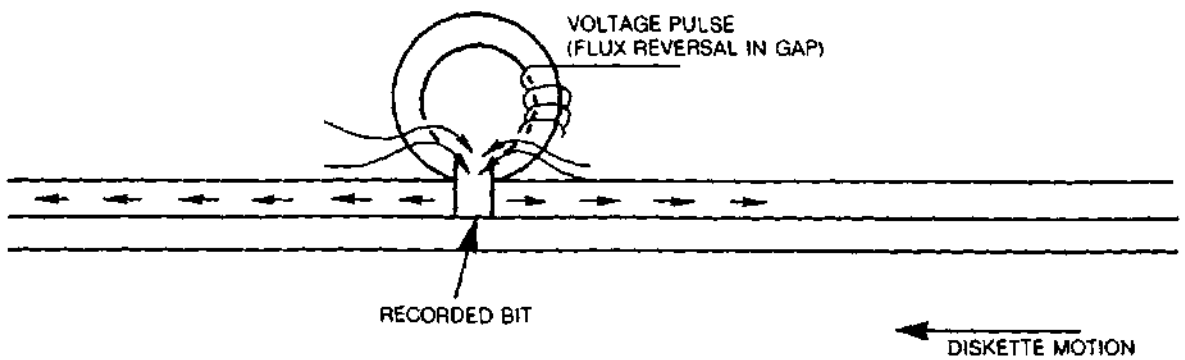

FIGURE 29. READING A BIT
**1.4.4** During a read operation, a bit is read when the flux direction in the ring is reversed as a result of a flux reversal on the diskette surface. The gap first passes over an area that is magnetized in one direction, and a constant flux flows through the ring coil. The coil registers no output voltage at this point. When a flux transition passes under the gap, the flux flowing through the ring and coil will make a 180° reversal. This means that the flux reversal in the coil will cause a voltage output pulse. See Figure 29.